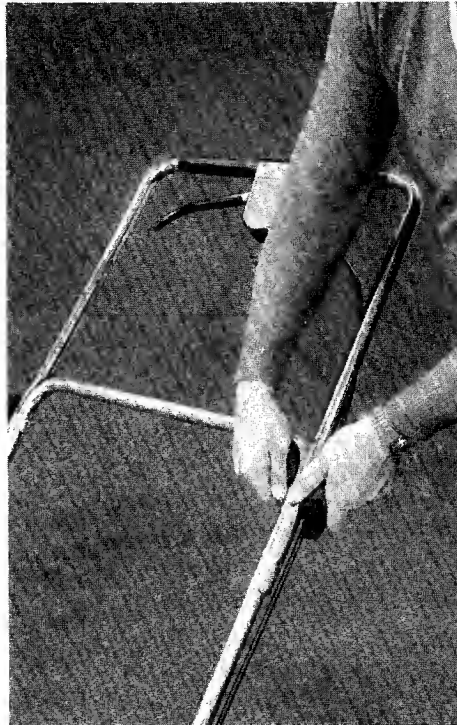

Figure 2
- 4 Assemble the upper handle with the engagement lever attached, to the lower handle with the two knobs. Make sure the single hole for the throttle is on the right side of the handle. The knobs can be either to the inside or the outside of the handle. (See figure 2.)